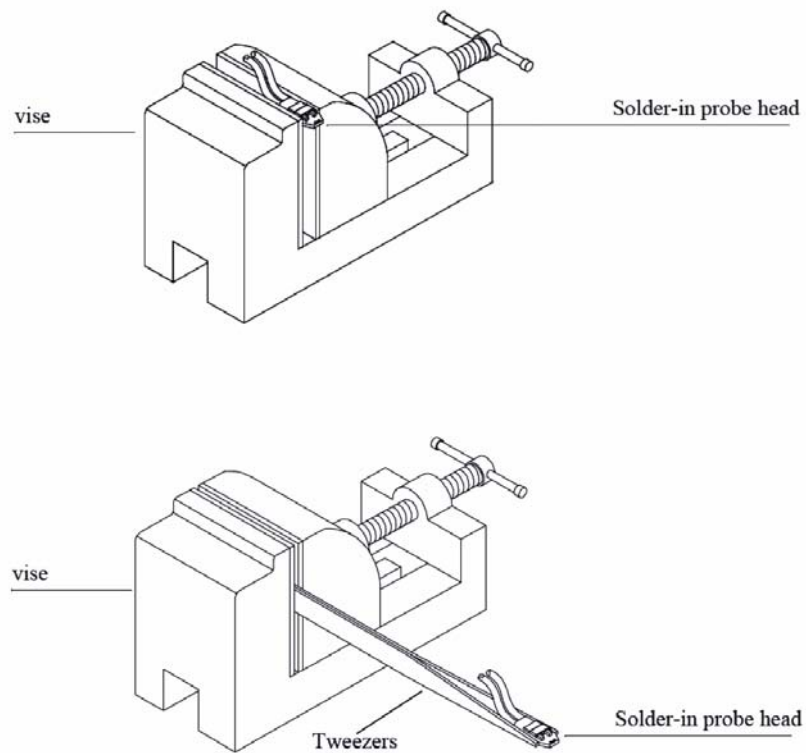

Figure 2-26 Holding tip with vise
- 1 Use the vise or clamp to position the tip an inch or so off the work surface for easy access. If using a vise, grip the tip on the sides with light force. If using a tweezers clamp, grip the tip either on the sides or at the top and bottom. See Figure 2-26.